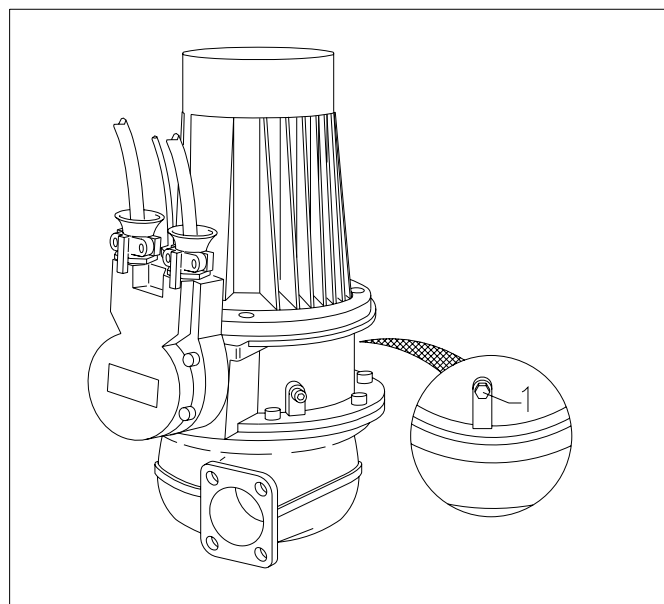

Fig. 7.6
Put the pump in a vertical position. Unscrew the M20 oil pug (1) which can be found at the opposite side of the cable entry box (see fig. 7.6).